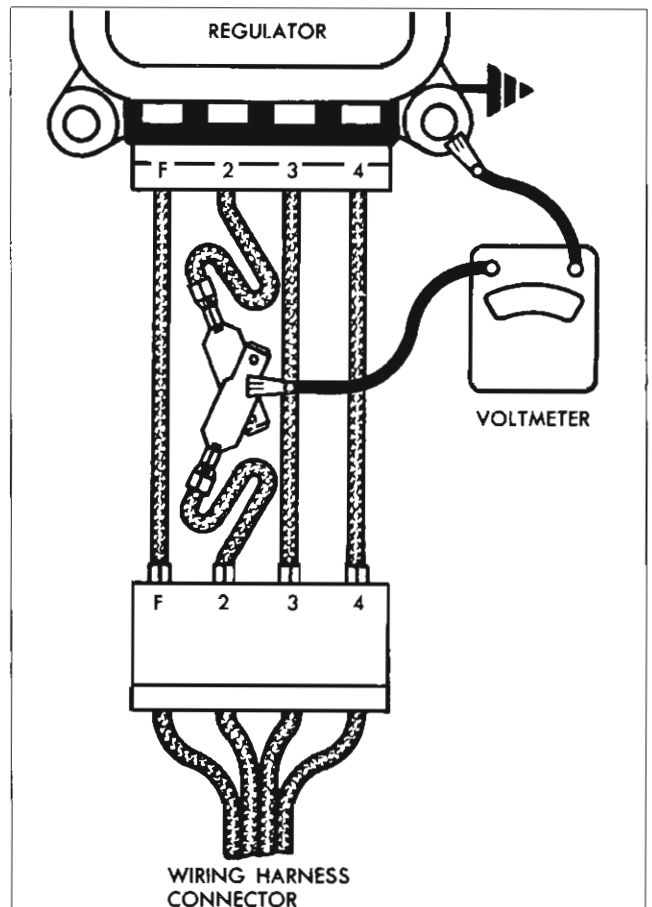

Fig. 15—Checking Field Relay
1. Connect a voltmeter into the system at the regulator No. 2 terminal to ground (fig. 15).